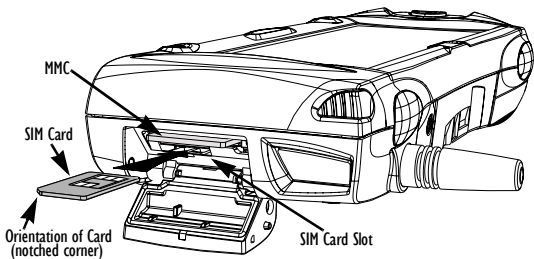

Figure 2.19 Insertion Of SIM Card
- Push the SIM card into place until it is fully inserted. Note the orientation of the card, shown in Figure 2.19 on page 41, with the notch of the card on the left, trailing side. Close the door.